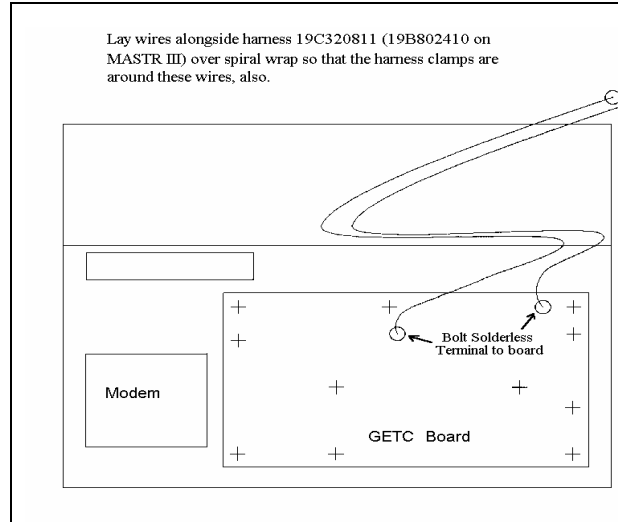

Figure 25 - Lightning-Protection Kit Cabinet Installation
3. The wires are then routed out of the shelf as shown in Figure 25.